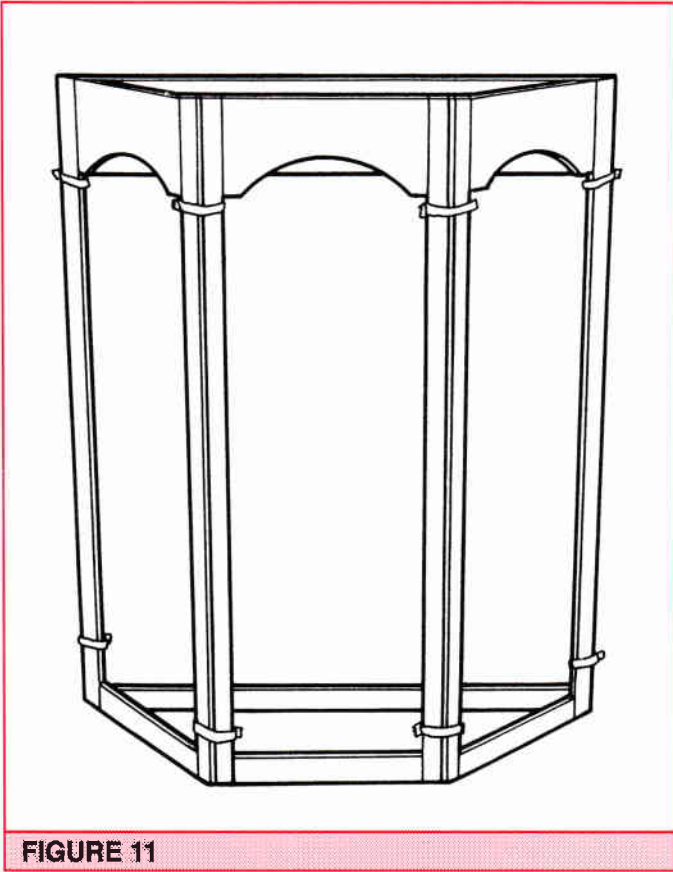

FIGURE 11
**12** The rear frames, sides and door of each cabinet can now be clamped together, using band clamps, or masking or duct tape. (**Figure 11**).